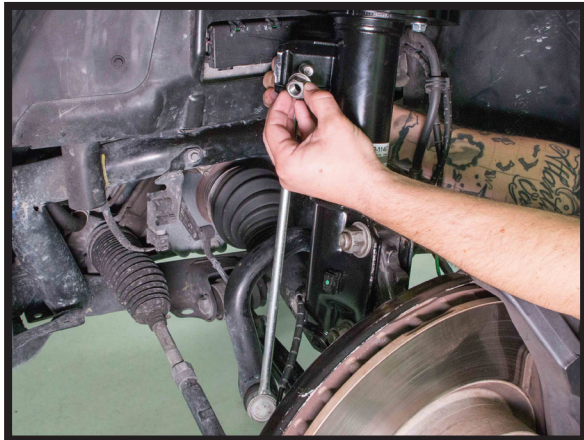

FIGURE 17
3. INSTALL THE SWAY BAR END LINK. (FIGURES 17, 18)